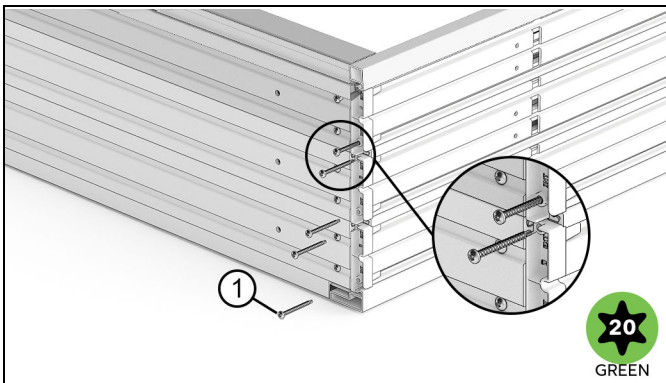

Figure 48
8. Fasten with two #8x1 3/4" self drilling screws per key. See Figure 48.